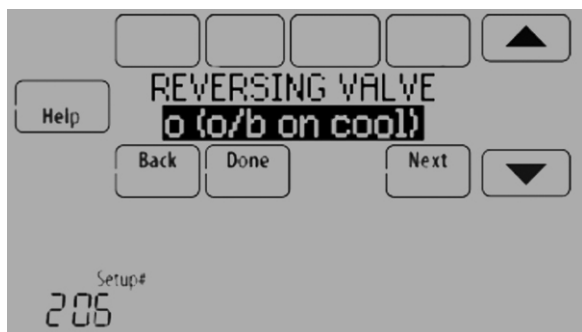

Fig. 173.
5. Select the Reversing Valve. See Fig. 173.